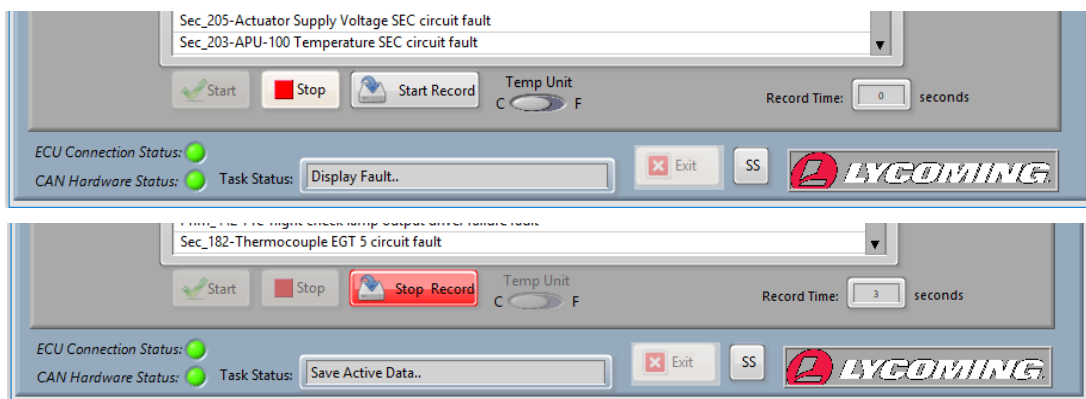

Figure 7
4. Click the **Stop** button (Figure 7) to stop reading active data from the ECU.
5. Click the **Start Record** button (Figure 7) to record the broadcast active data in a file on the laptop.